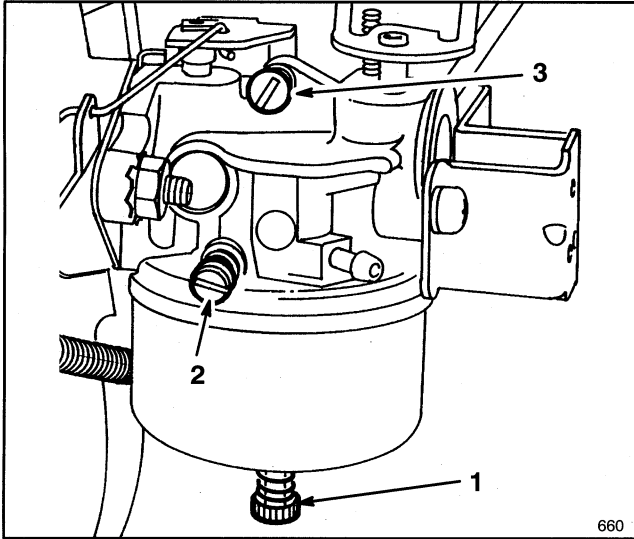

Figure 30
2. Power Adjusting Screw (Fig. 30)—Close screw by gently rotating it clockwise until a slight seating resistance is felt. Next, rotate power adjusting screw one full turn—360°—counterclockwise.
3. Idle Mixture Screw (Fig. 30)—Close screw by gently rotating it clockwise until a slight seating resistance is felt. Next, rotate idle mixture screw 1–1/2 full turns counterclockwise.
5. Rotate power adjusting screw (Fig. 30) clockwise—in—1/8 turn at a time until engine misses because of a lean gasoline mixture. Then rotate screw counterclockwise—out—1/8 turn at time until engine runs unevenly because of a rich gasoline mixture. Next, rotate power adjusting screw clockwise, back to the midpoint between the rich and lean settings, so engine runs smoothly.
7. Rotate idle mixture screw (Fig. 30) clockwise—in—1/8 turn at a time until engine begins to miss because of a lean mixture. Then rotate screw counterclockwise—out—1/8 turn at a time until engine runs unevenly because of rich mixture. Next, rotate idle mixture screw clockwise, back to the mid—point between rich and lean settings.
8. Again, rotate idle speed screw (Fig. 30) until engine idles at 1750 rpm.